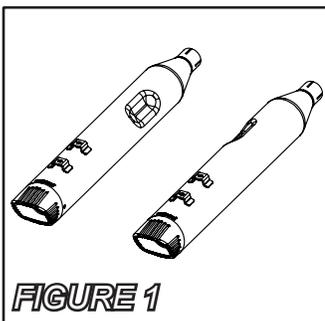

FIGURE 1
5. There is a right and left muffler as determined by the axle clearance dent in the casing. Install with the dents to the inside (Figure 1).